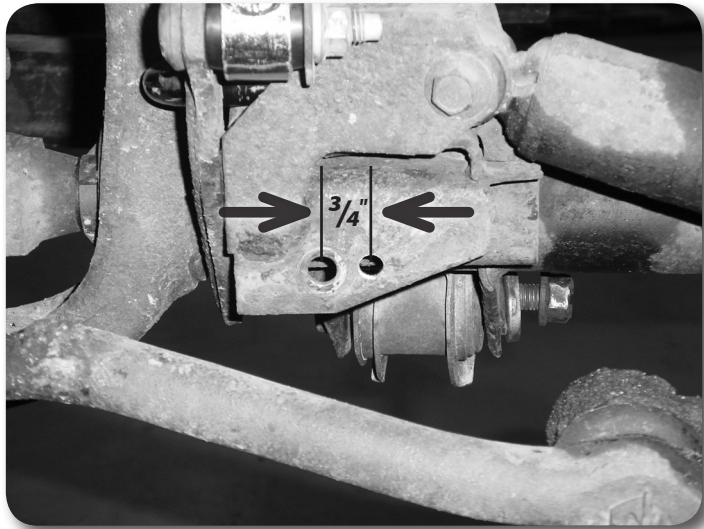

Figure 7
21. Locate the factory track bar mount on the passenger's side of the axle. Measure from the center of the original track bar mounting hole $3/4$ " toward the driver's side and mark. Drill a $13/32$ " hole at the mark through the front and back faces of the track bar mount **Figure 7**. This will be the new mounting point for the track bar. Do not install the track bar at this time.